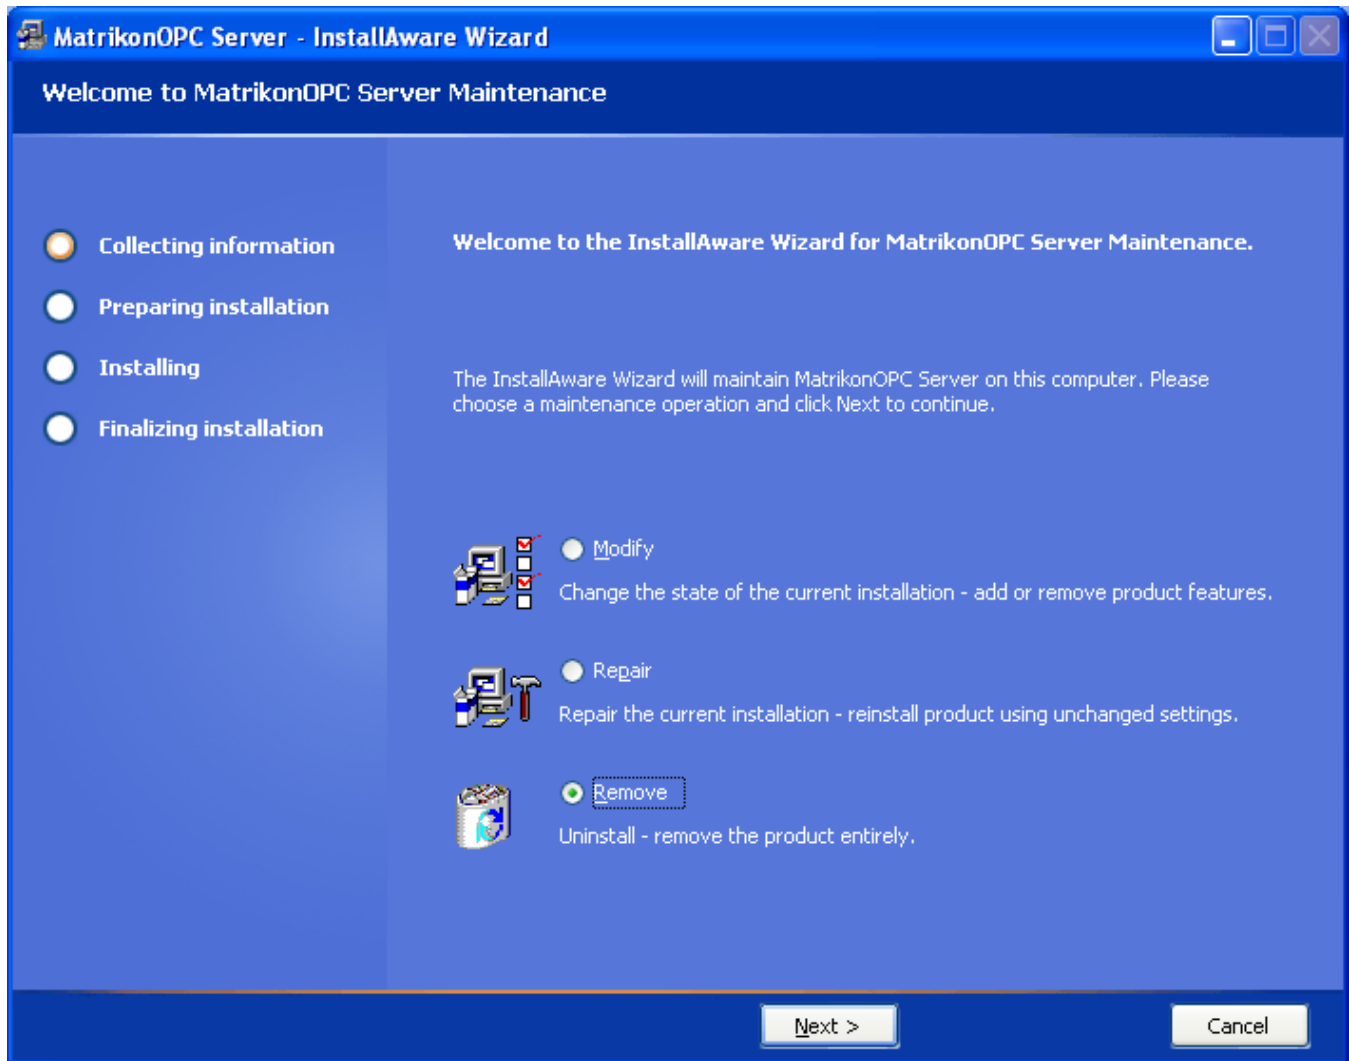

Figure 95 - Welcome to MatrikonOPC Server for SCADA Modbus Maintenance Screen
6. The **MatrikonOPC Server for SCADA Modbus – InstallAware Wizard** appears, and the **Welcome to MatrikonOPC Server for SCADA Modbus Maintenance** screen (Figure 95) is displayed.